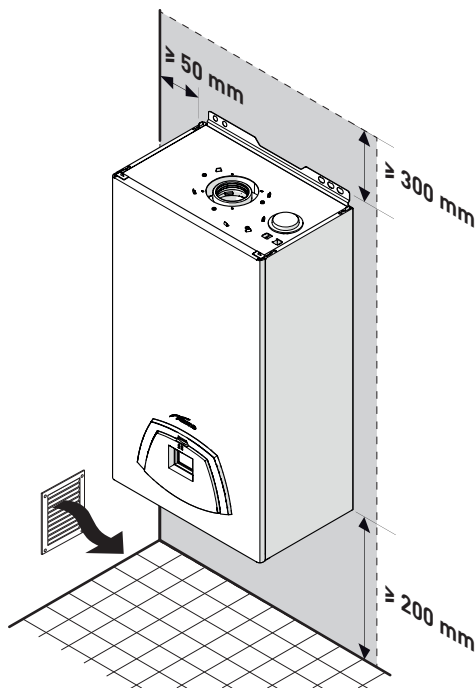

Fig. 20
- Remember to consider the space needed in order to access the safety/adjustment devices and to carry out maintenance interventions (see Fig. 20).